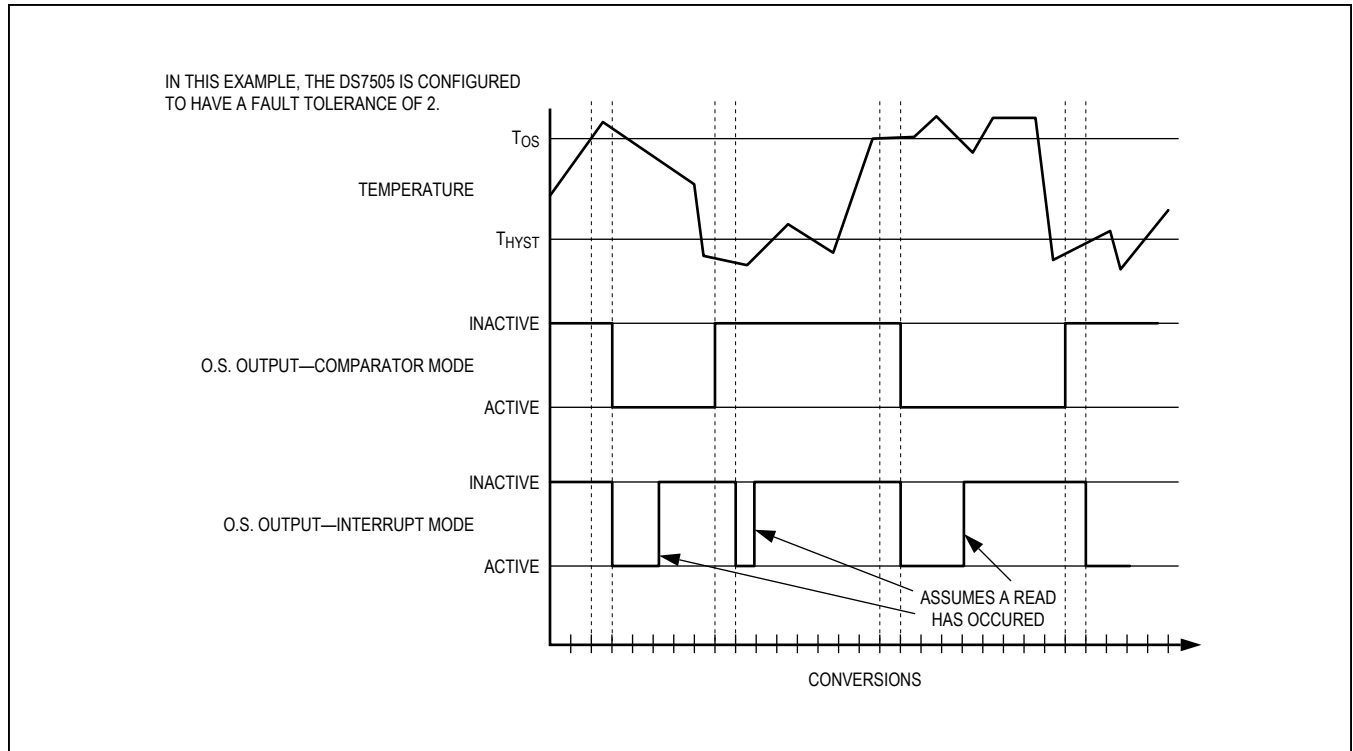

Figure 4. O.S. Output Operation Example
When the thermostat is in comparator mode, O.S. can be programmed to operate with any amount of hysteresis. The O.S. output becomes active when the measured temperature exceeds the  $T_{OS}$  value a consecutive number of times as defined by the F1 and F0 fault tolerance (FT) bits in the configuration register. O.S. then stays active until the first time the temperature falls below the value stored in  $T_{HYST}$ . Putting the device into shutdown mode does not clear O.S. in comparator mode. Thermostat comparator mode operation with FT = 2 is illustrated in Figure 4.
measured temperature falls below the  $T_{HYST}$  value a consecutive number of times equal to the FT value. Again, O.S can only be cleared by putting the device into shutdown mode or reading any register. Thus, this interrupt/clear process is cyclical between  $T_{OS}$  and  $T_{HYST}$  events (i.e.  $T_{OS}$ , clear,  $T_{HYST}$ , clear,  $T_{OS}$ , clear,  $T_{HYST}$ , clear, etc.). Thermostat interrupt mode operation with  $FT = 2$  is illustrated in Figure 4.